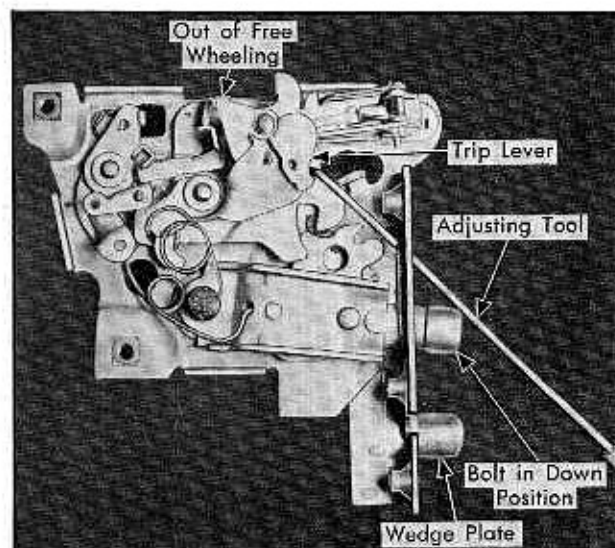

Fig. 3-28 Adjusting Rear Door Lock to Free Wheeling
3. To adjust lock "in" free-wheeling, engage trip lever and push lever forward. Fig. 3-28.